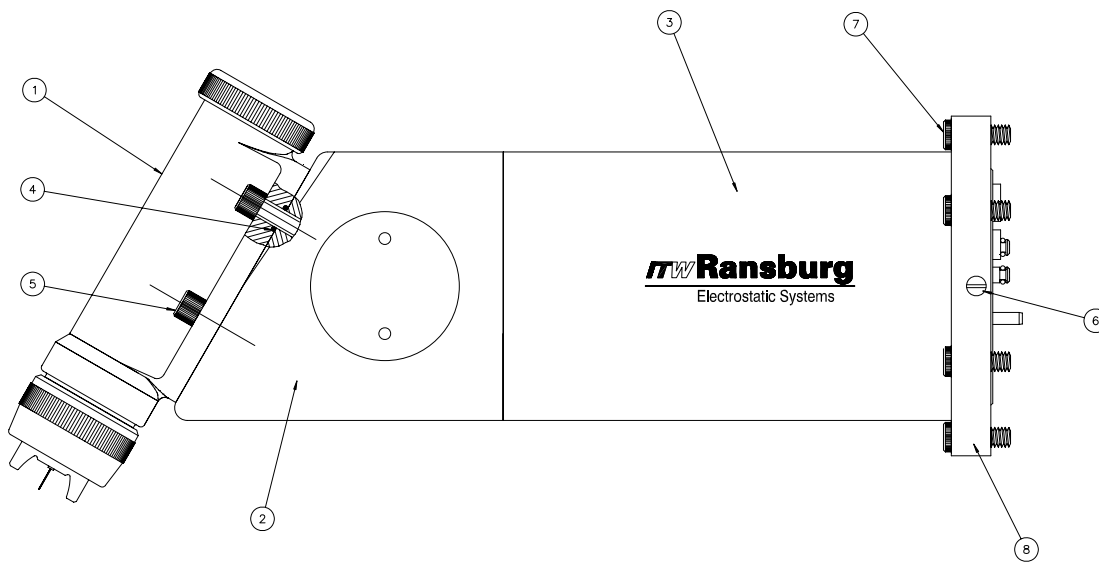

Figure 7: Applicator Removal from Robot Manifold
(See Figure 7)
76480 EFM APPLICATOR ASSEMBLY - PARTS LIST (Figure 7)
9. Referring to Figure 7, check valve piston [2] for free movement and the four o-rings for damage or wear. One of the o-rings [5] is located on the valve piston within the assembly. Use two screwdrivers, engaged into the slots on both ends of the assembly, to disassemble. Replace any damaged o-rings.
- When applying Loctite, use very sparingly. Apply one small drop to first thread of [2], then carefully assemble. Do not get any Loctite on ID of [1] or OD of [2], Figure 7. Cartridge valve may malfunction.